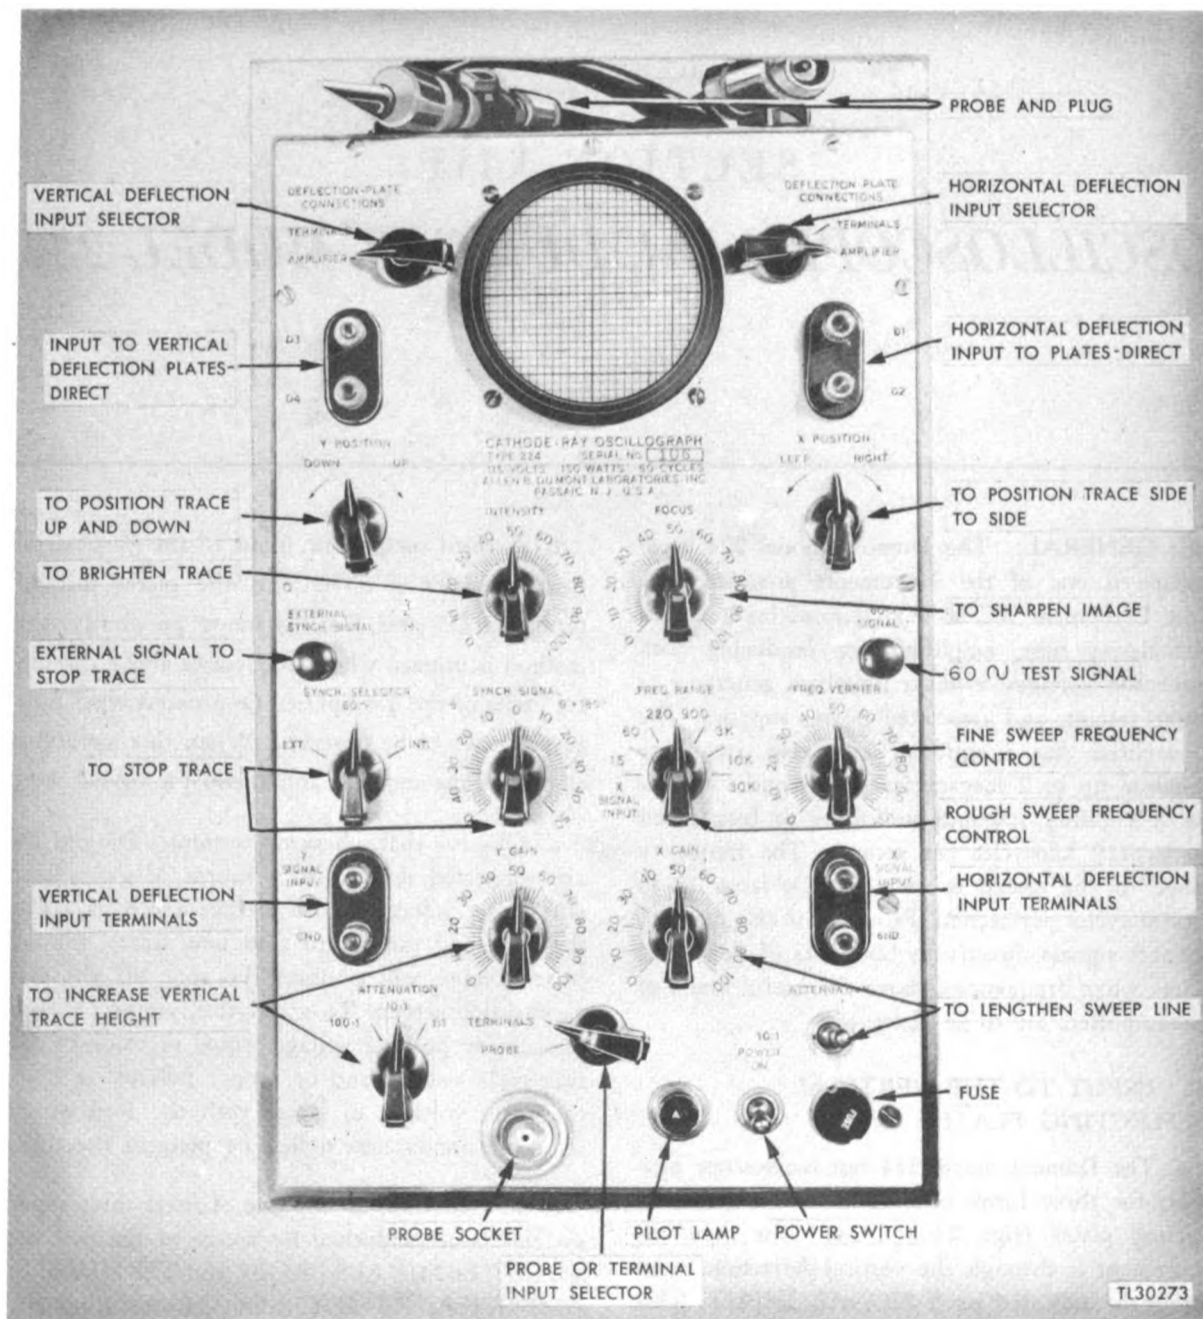

Figure 23. Oscilloscope I-134, Dumont model 224, panel view.
a. The Dumont model 224 test oscilloscope provides for three forms of input to the vertical deflecting plates (figs. 23. and 24). One input arrangement is through the vertical-deflection input terminals indicated as Y-SIGNAL INPUT. This input may be controlled by a 3-step attenuator marked ATTENUATION 100:1, 10:1, 1:1, and an amplifier with a variable-gain control marked Y-GAIN.
b. Another input arrangement to the vertical deflecting plates is by means of a special high-frequency probe. Both probe and socket are illustrated in figure 23. When this probe input is used, the amplifier remains in the circuit, but the 3-step attenuator is cut out.